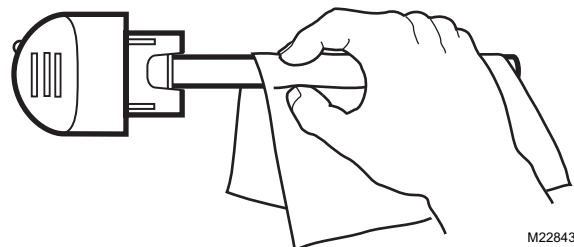

Fig. 11. Clean glass with soft cloth.
4. Holding the lamp handle, wipe the lamp glass using a soft cloth dampened with glass cleaner. If you touch the lamp glass with your hands, be sure to clean the area of any oils left from bare hands. See Fig. 11.